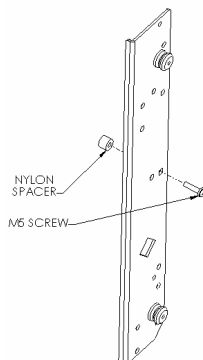
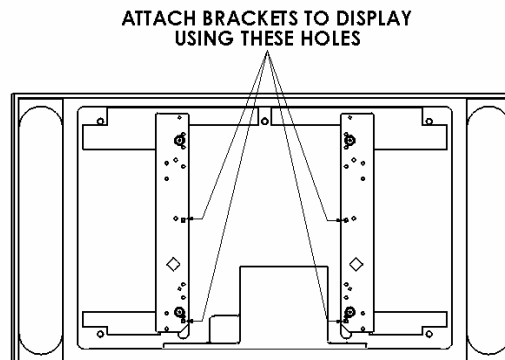

Figure 4
Figure 5
3. Place Nylon spacers on mounting holes, aligning square hole pattern on brackets with pattern on back of the display (see Figure 4 & Figure 5).